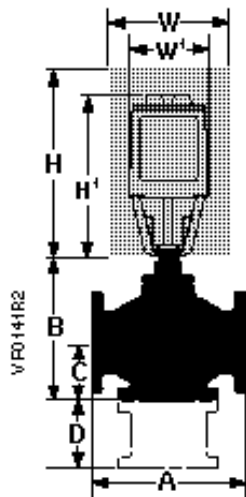

Figure 5.
- For flange dimensions and bolt hole information, see 155-303P25 (TB 248). Allow sufficient space for servicing the valve and actuator. See Table 12 for valve body dimensions. See Figure 5 and Table 11 for dimensions of the service envelope recommended around the actuator.
The letters in Figure 5 refer to actuator and service envelope dimensions in Table 11. See Table 12 for valve body dimensions.